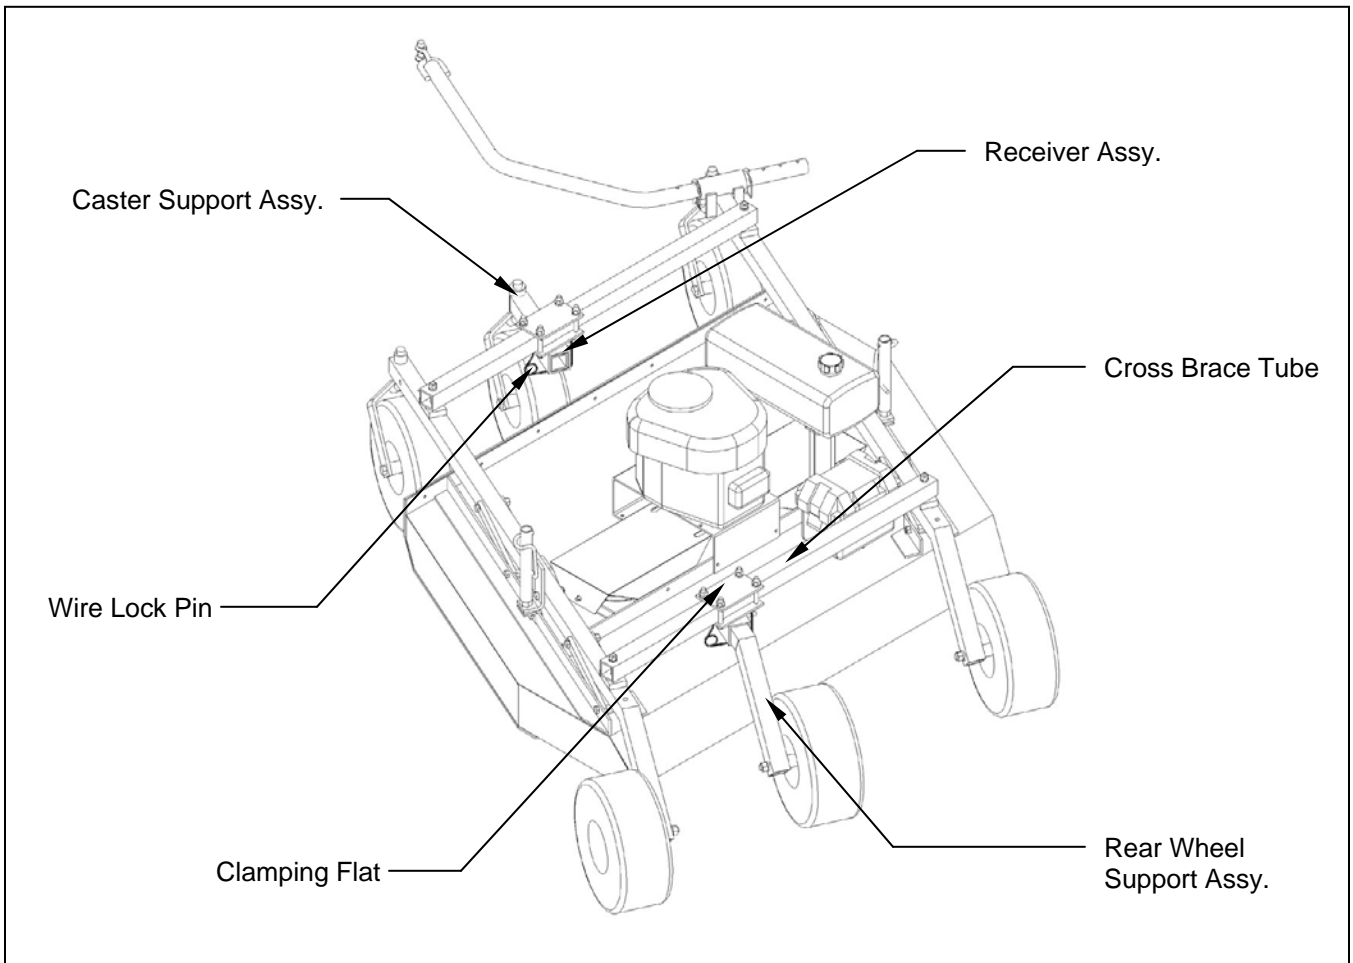

Figure 2. Assembly of Floatation Kit Parts
B. INSTALL CROSS BRACE TUBES (Refer to Figure 2)
C. INSTALL RECEIVER ASSEMBLIES AND CLAMPING FLATS (Refer to Figure 2)
D. INSTALL CASTER SUPPORT ASSY. AND REAR WHEEL SUPPORT ASSY. (Refer to Figure 2)